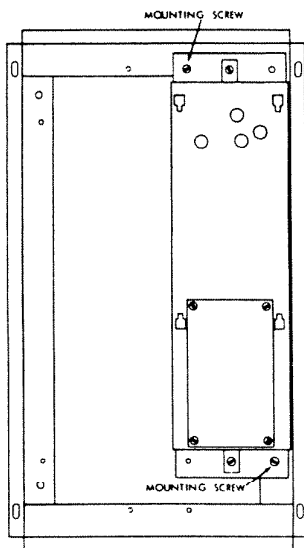

Fig. 3
- (2) Amplifier is mounted to "A" housing as shown in Figure 3 with two sheet metal screws.